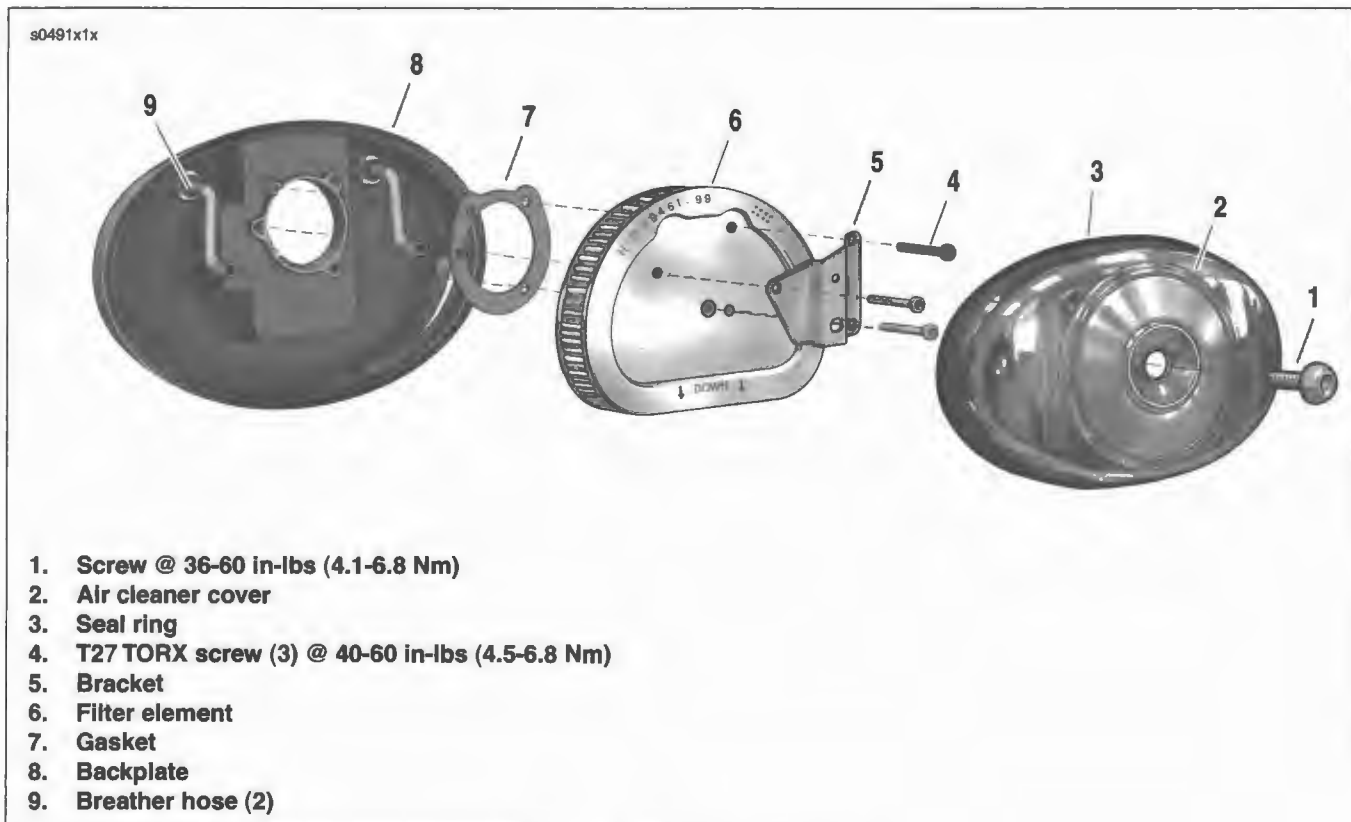

Figure 1-49. Air Cleaner Assembly
1. See Figure 1-49. Remove screw (1) and air cleaner cover (2).
2. Remove three TORX screws (4) and bracket (5) from filter element (6).
3. Gently pull both rubber breather tubes (9) from the back of the element. Remove filter element (6) and gasket (7).
3. See Figure 1-49. Install air filter element and bracket.
- b. Use three TORX screws (4) to secure bracket and filter element. Tighten to 40-60 **in-lbs** (4.5-6.8 Nm).
4. Install air filter cover (2).
- a. Apply a drop of LOCTITE THREADLOCKER 243 (blue) to threads of air cleaner cover screw (1).